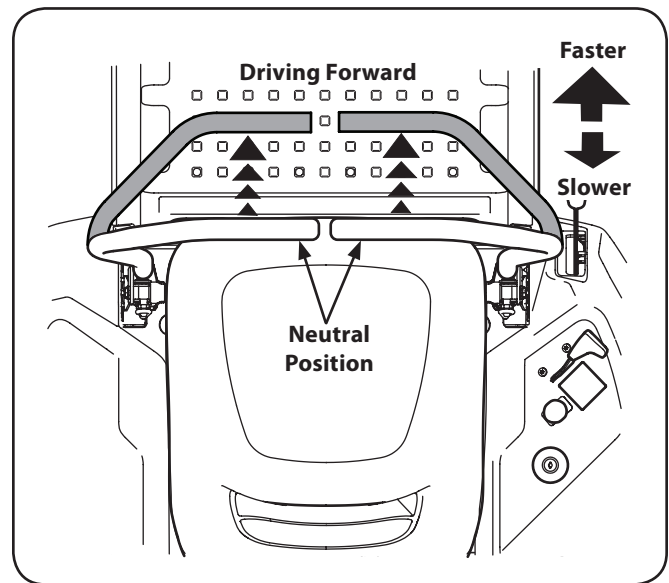

Figure 5-3
1. Slowly and evenly move both drive control levers forward. The tractor will start to move forward. See Figure 5-3.